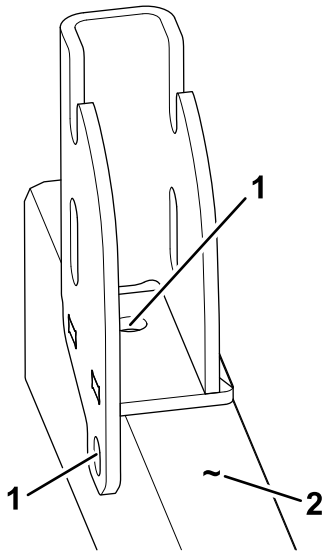

Figure 3
2. Using the assist-handle bracket as a template, draw marks through the holes onto the frame rail (Figure 3).
3. Drill holes at the marked locations using a drill bit (9/32 inch) as shown in Figure 3.